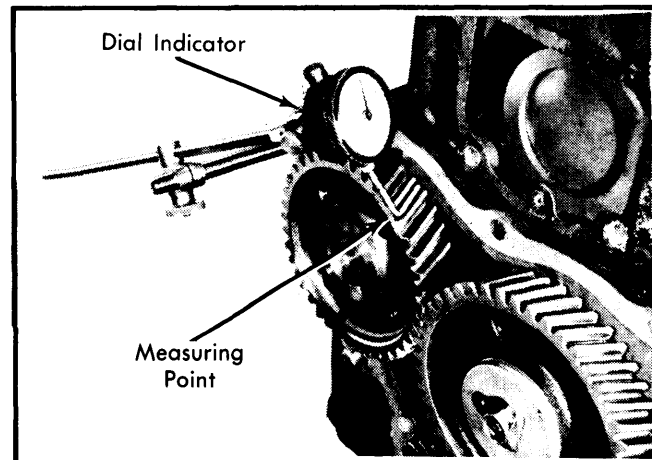

Fig. 15 Camshaft Gear Back Lash Check
3) Check timing gear backlash by mounting dial indicator so that lash is measured from gear tooth profile at right angle to gear shaft. See Fig. 15. Be sure hold down bolt at rear of pump is tight. Backlash should be .004-.009" (0.11-0.24 mm). Replace gear if backlash exceeds limit of 0.01" (0.3 mm).